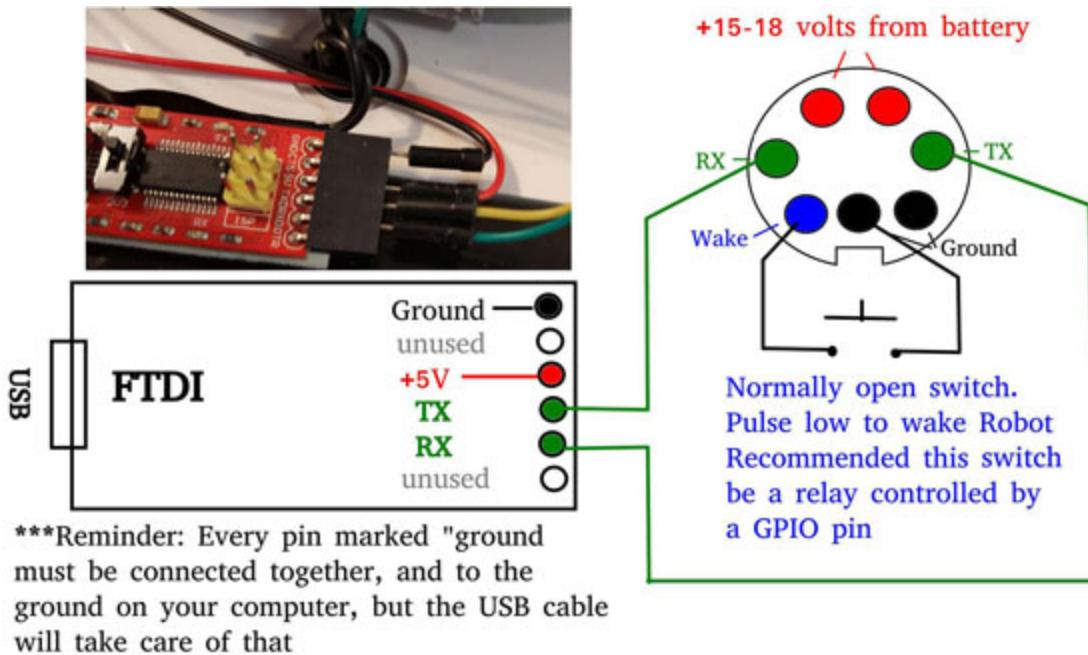

Figure 3.9: Connecting to the Roomba din connector through an FTDI. That's not a mistake – TX of one device goes to RX of the other and vice versa.
Communications could be done with the serial UART on the Raspberry Pi GPIO pins 14 and 15, but the Roomba UART speaks at *5 volts*, and the RPi has *3.3 volt* pins (*we talked about matching voltages in the last chapter, right?*). Since going from UART to UART will require voltage-shifting circuitry anyway, it's much easier to do so with a USB device called an **FTDI**. Figure 3.9 below shows wiring an FTDI to the Roomba's connector.
- Wire your *FTDI* and wake button as pictured above (figure 3.9)